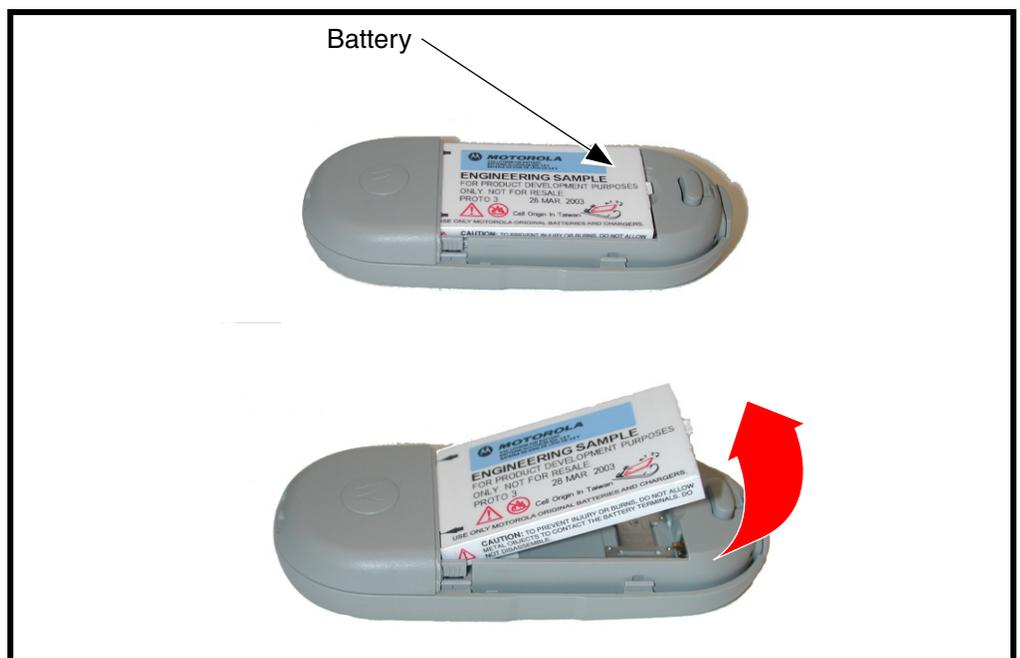

Figure 5. Removing the Battery
2. Press the battery latch and slide the battery cover away from the phone (see Figure 5).